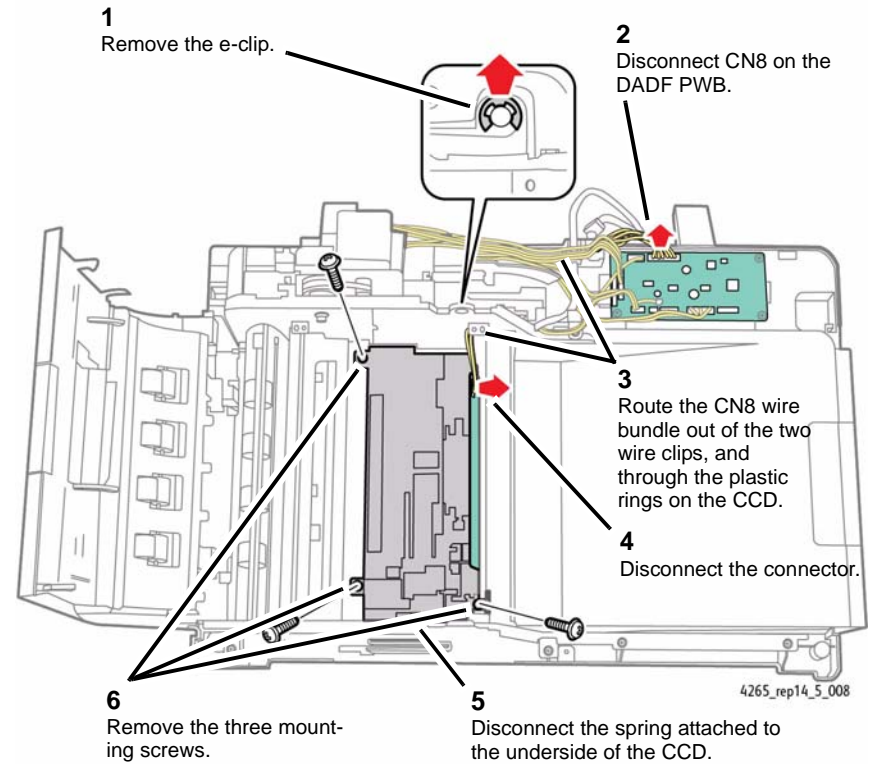

Figure 9 Preparing to Remove the CCD
11. Prepare to remove the CCD (Figure 9).